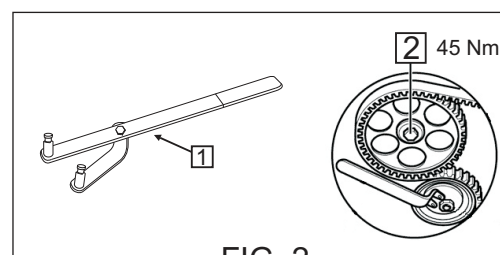

FIG. 2
- ③ *ASY engine code*: Hold camshaft pulley with the tool (1) [FIG. 2] and loosen the bolt (2) [FIG. 2]. Then, remove camshaft pulley with the extractor.
- ④ *TDi engines*: Turn camshaft pulley completely clockwise.
ASY engine code: Hold camshaft pulley with the tool (1) [FIG. 2] and tighten the bolt (2) [FIG. 2] (45 Nm). Tighten injection pump pulley bolts (25 Nm).